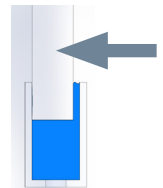

FIG.12
- Now you need your caulk-ing gun with desired silicone color, black N60 for black channels , clear N60 for everything else, you want the nozzle tip as small as possible, starting at the top of the wall channel on the inside of the shower, you now need to pump the silicone into the channel, you need to press hard. The process will fill up the void, eliminate bubbles and complete the seal. Work your way down the wall channel and along the floor channel. Slide glass panel into position (FIG 12) to the inside edge of channel and against silicone. Repeat the process on the other side. Fill up outside edge of channel with more silicone, untill completely full, then spray with soapy water and tool off excess silicone 100%. Inspect and ensure you have a nice tidy finish.